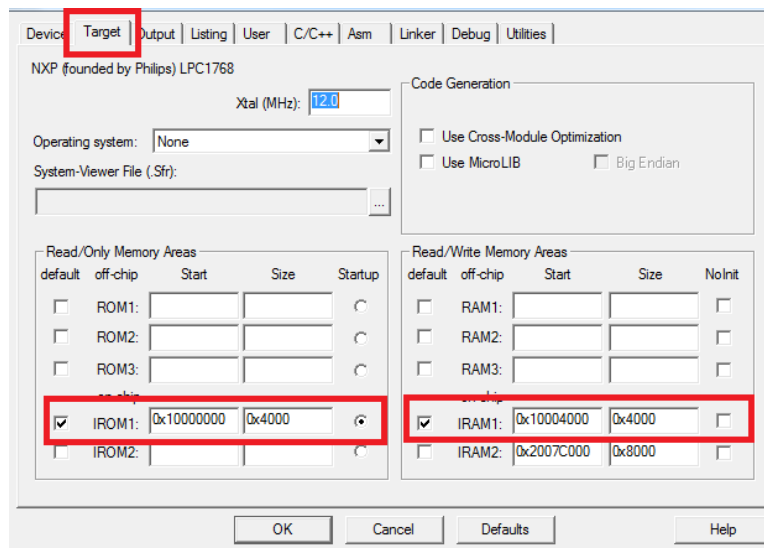

Figure 2.10: Keil IDE: Target In-Memory Execution Memory Map Configuration
- the in-memory execution memory map is used (see figure 2.10); and